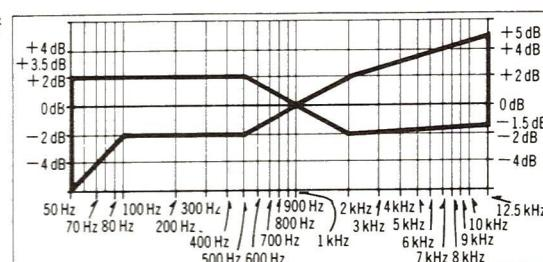
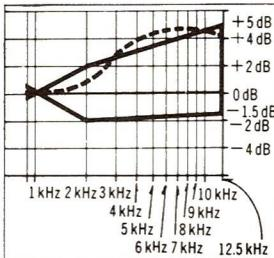
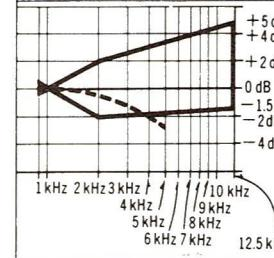

Fig. 11
Fig. 13
Fig. 14
<p>G Overall frequency response [TAPE ②]</p> <p>Condition:</p> <ul style="list-style-type: none"> <li>• Record/playback mode</li> <li>• Normal tape mode</li> <li>• CrO2 tape mode</li> <li>• Metal tape mode</li> <li>• Input level controls ... MAX</li> </ul> <p>Equipment:</p> <ul style="list-style-type: none"> <li>• VTVM • AF oscillator</li> <li>• ATT • Oscilloscope</li> <li>• Resistor (600Ω)</li> <li>• Test tape (reference blank tape)       <ul style="list-style-type: none"> <li>... QZZCRA for Normal</li> <li>... QZZCRX for CrO2</li> <li>... QZZCRZ for Metal</li> </ul> </li> </ul>	<p>Note</p> <p>Before measuring and adjusting, make sure of the playback frequency response (For the method of measurement, please refer to the playback frequency response).</p> <p>Overall frequency response chart (Normal) [TAPE ②]</p> <p>Overall frequency response adjustment by recording bias current</p> <p>(Recording equalizer is fixed.)</p> <ol style="list-style-type: none"> <li>Make connections as shown in fig. 12.</li> <li>Place UNIT into normal tape mode and load the test tape (QZZCRA).</li> <li>Input a 1kHz, -24 dB signal through LINE IN. Place the set in record mode.</li> <li>Fine adjust the attenuator to obtain 0.4V LINE OUT output.       <ul style="list-style-type: none"> <li>Make sure that the input signal level is <math>-24 \pm 4 \text{dB}</math> with 0.4V output voltage.</li> </ul> </li> <li>Adjust the attenuator to reduce the input signal level by 20dB.</li> <li>Adjust the AF oscillator to generate 50Hz, 100Hz, 200Hz, 500Hz, 1kHz, 4kHz, 8kHz, 10kHz and 12.5kHz signals, and record these signals on the test tape.</li> <li>Playback the signals recorded in step 6, and check if the frequency response curve is within the limits shown in the overall frequency response chart for normal tapes (fig. 11).       <ul style="list-style-type: none"> <li>If the curve is within the charted specifications, proceed to steps 8, 9 and 10.</li> <li>If the curve is not within the charted specifications, adjust as follows:</li> </ul> </li> </ol> <p style="text-align: center;">Adjustment A :   Adjustment B :</p>
- Playback the signals recorded in step 6, and check if the frequency response curve is within the limits shown in the overall frequency response chart for normal tapes (fig. 11).
When the curve exceeds the overall frequency response chart specifications (fig. 11) as shown in fig. 13.
- Repeat steps 6 and 7 to confirm. (Proceed to steps 8, 9 and 10 if the curve is now within the charted specifications in fig. 11.)
- If the curve still exceeds the specifications (fig. 13), repeat steps 6 and 7 for the other side.
When the curve falls below the overall frequency response chart specifications (fig. 11) as shown in fig. 14.
- If the curve still falls below the charted specifications (fig. 14), reduce bias current further and repeat steps 6 and 7.